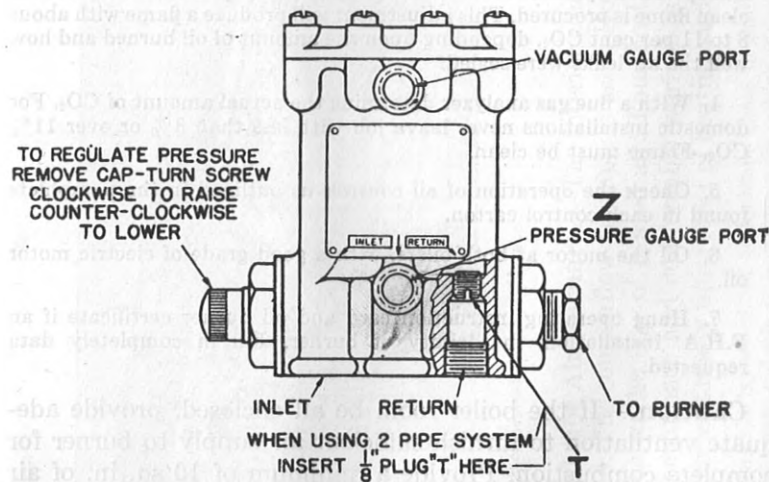

Fig. 9.—Pump assembly.
9. Purge the air from the pump assembly by removing lower plug Z on side of pump. See fig. 9. Set thermostat above room temperature. Close burner switch and run burner until oil flows from this opening. Catch this in a can or jar. When no further air is evidenced and a steady oil stream appears then:
11. Start the burner and adjust the pressure regulating valve see fig. 9, to about 95 lbs. Adjust the air shutter M, fig. 5, to produce a clean flame.